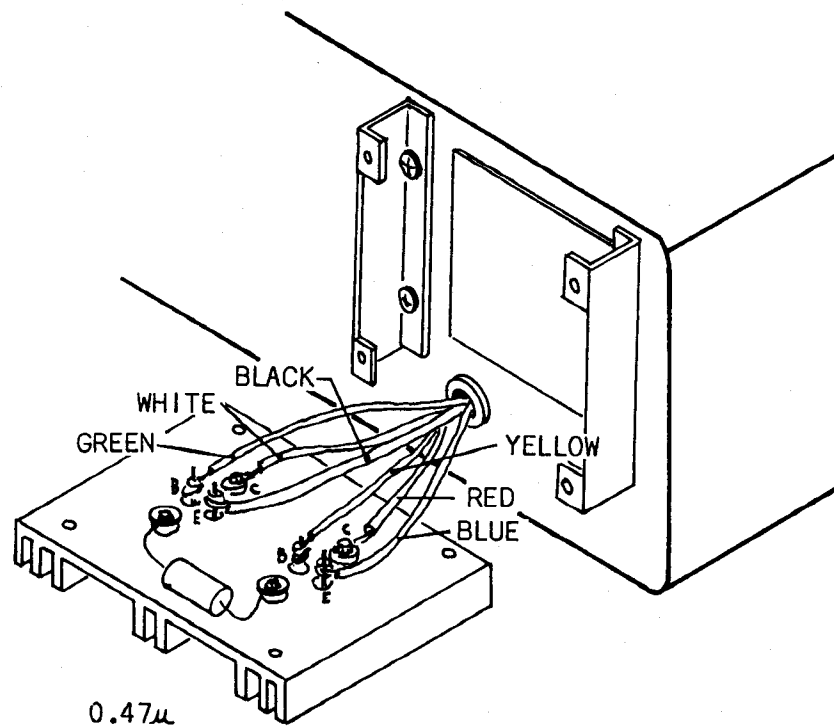

FIGURE 6-20
4. Wrap and solder the wires coming from the back panel to each transistor as shown in Fig.6-20. Make sure each wire is soldered well, but do not overheat the transistors.
If using 2SB206's, leave out the $0.47\mu\text{f}$ capacitor - you don't need it. Wire as shown in Fig.6-20.
If using 2SB212's, use a $2.2\mu\text{f}$ instead of the $0.47\mu\text{f}$ capacitor. Wire as shown in Fig.6-20.